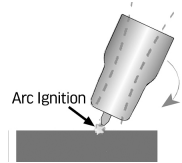
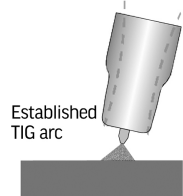

Figure 39.
Figure 40.
5. Now rotate the gas cup in the reverse direction to lift the tungsten electrode from the workpiece to create the arc (Fig. 39) and (Fig. 40).